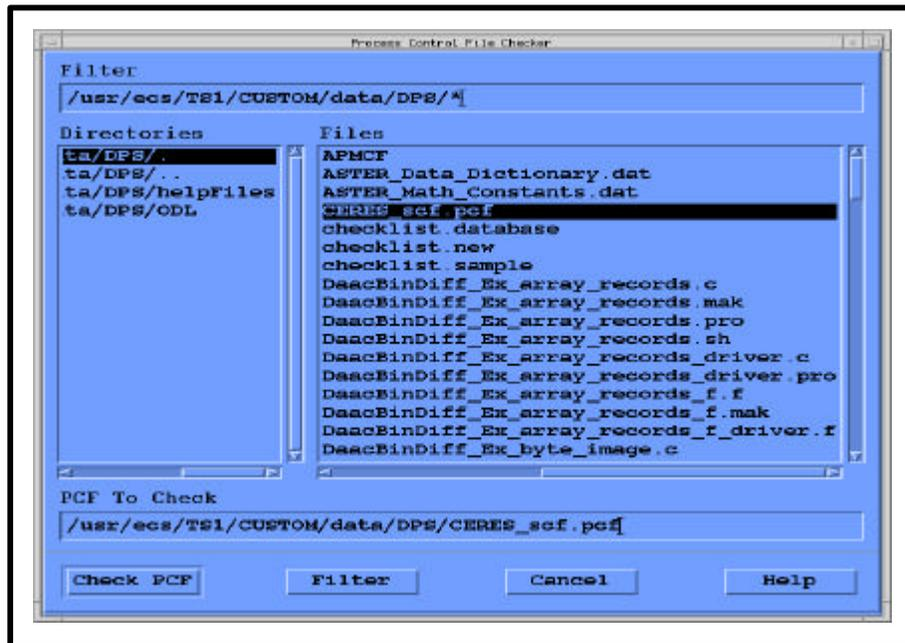

Figure 11.5.6-1. Process Control File Checker GUI
- 1 From the SSIT Manager, select **Tools** → **Standards Checkers** → **Process Control File Checker** from the menu, see figure 11.5.6-1.